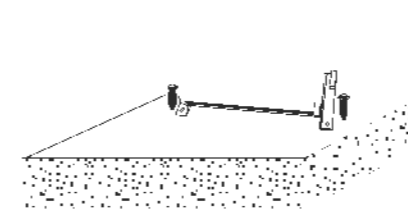

图 1/Picture 1
1. 用螺丝将固定件固定到墙上, 如图1所示.
1. Will be fixed by screws is fixed to the wall, as shown in figure 1.